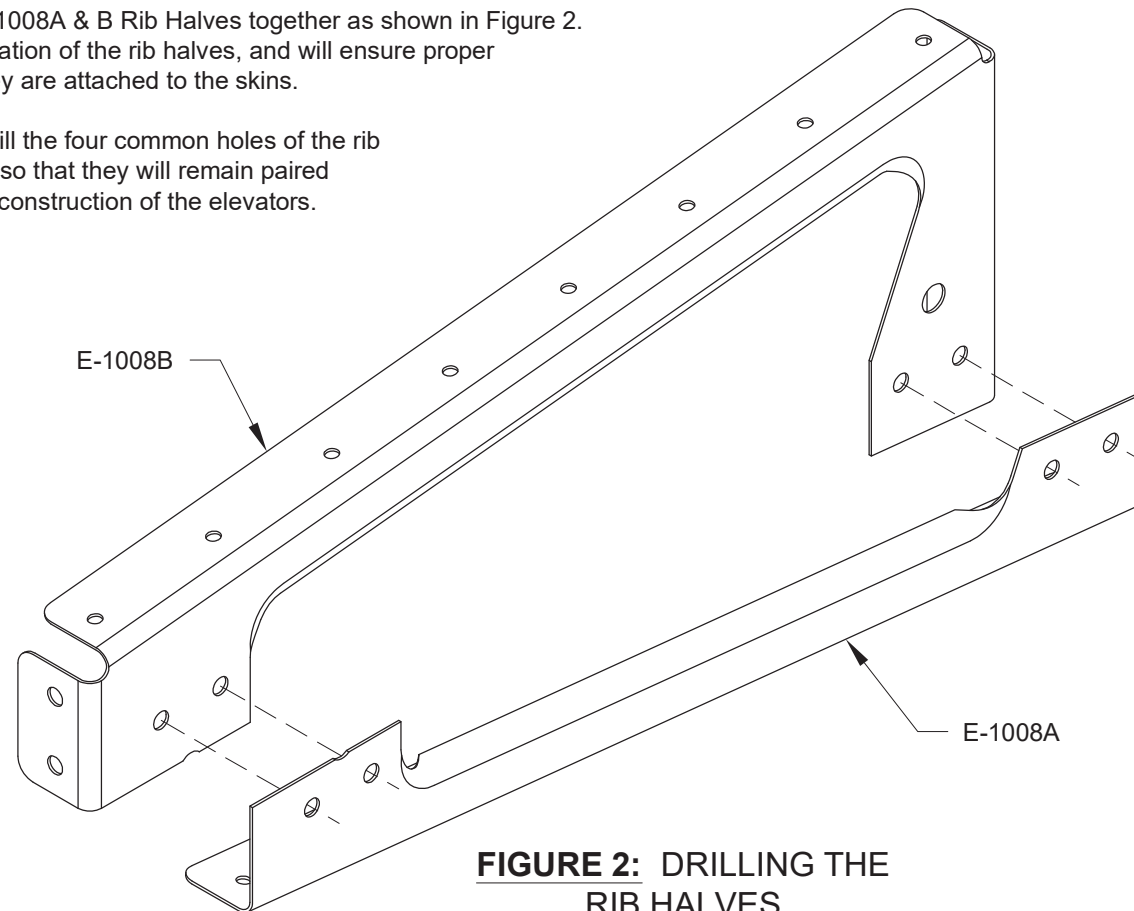

FIGURE 2: DRILLING THE RIB HALVES
Step 3: Cleco all the E-1008A & B Rib Halves together as shown in Figure 2. This is the correct orientation of the rib halves, and will ensure proper hole alignment when they are attached to the skins.